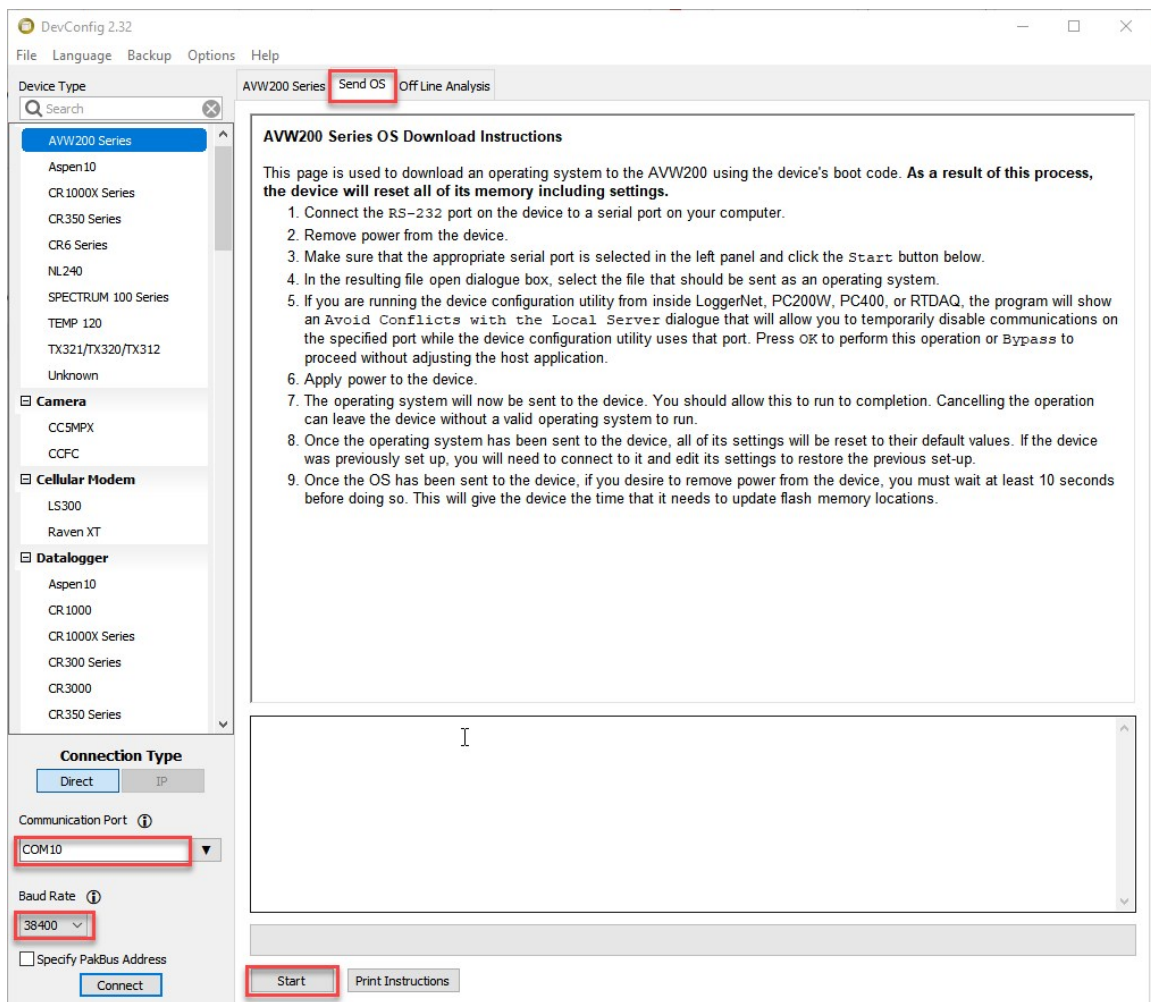

Figure 8-6. Sending an operating system using *Device Configuration Utility*
6. Click the **Start** and follow the directions on the screen (Figure 8-6 [p. 39]).